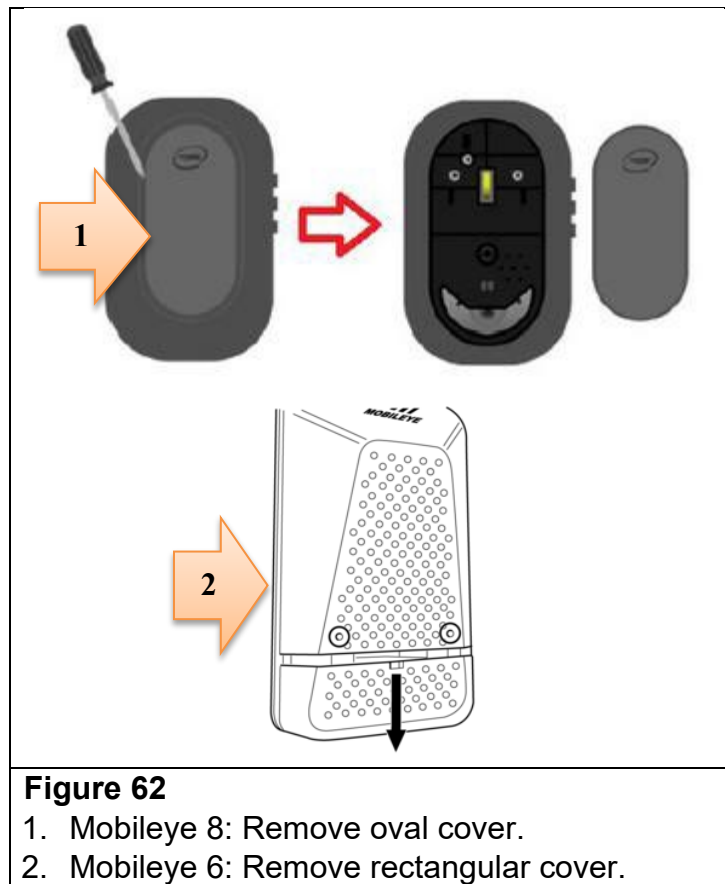

Figure 62
62. **For Mobileye 8**, use a small flat screwdriver, to pop out the oval cover of the camera. If equipped with Mobileye 6, use a small flat tip screwdriver to remove the rectangular cover of the camera (See Figure 62.)